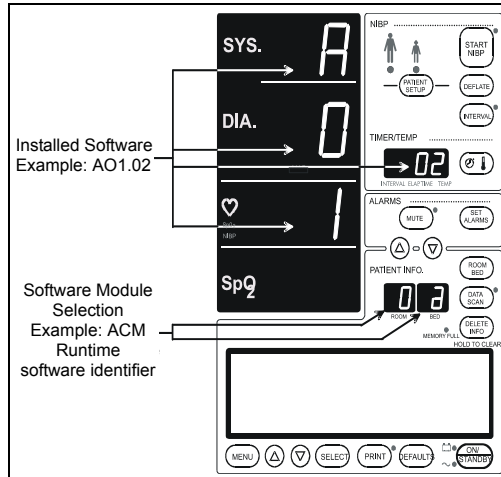

FIGURE 5-1 - Software Version Test
This test displays the installed software version (s) in the monitor. The results are displayed in the read outs illustrated in Figure 5-1 on page 5-6.
3. Press any key on the keyboard. A number will appear in the Patient Bed Letter Display. This number is identified in Figure 5-1 on page 5-6. Verify that the correct number appears in the Patient Bed Letter Display when each key is pressed.